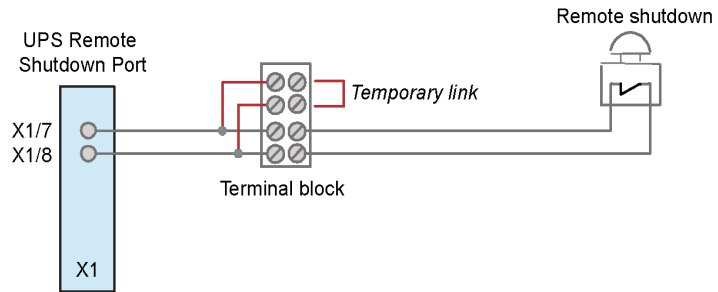

Figure 8.2 Remote shutdown connection
2. Connect the cable as shown in Figure 8.2.